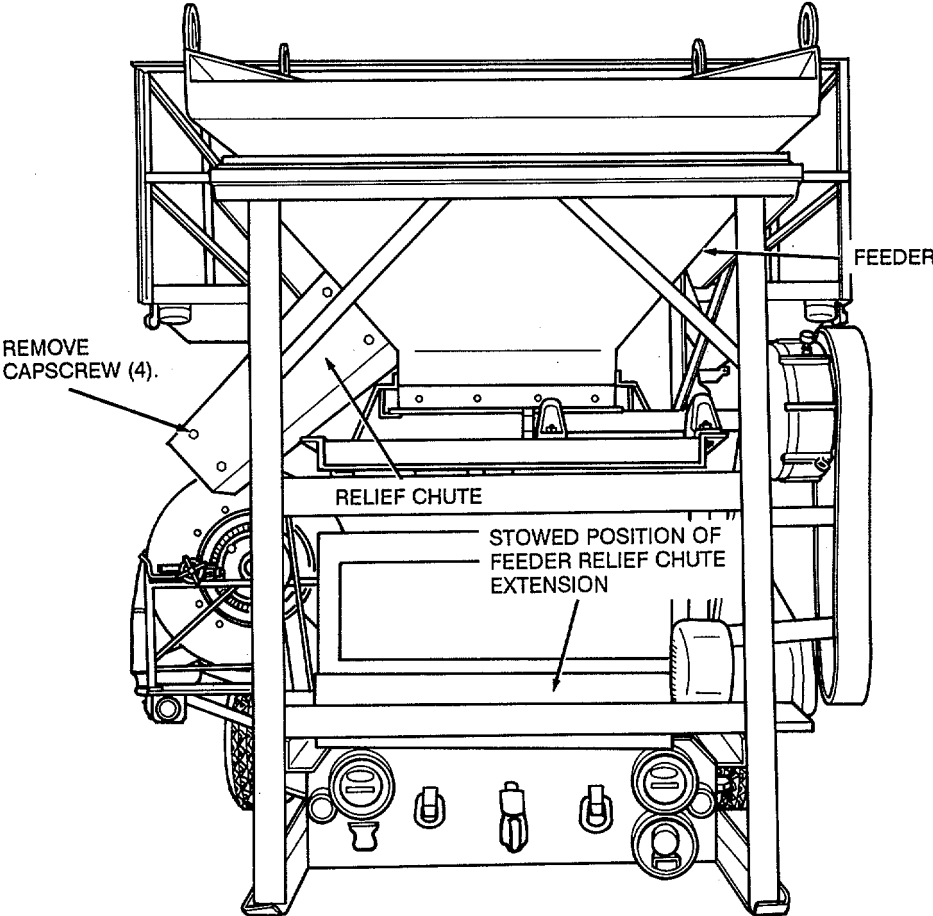
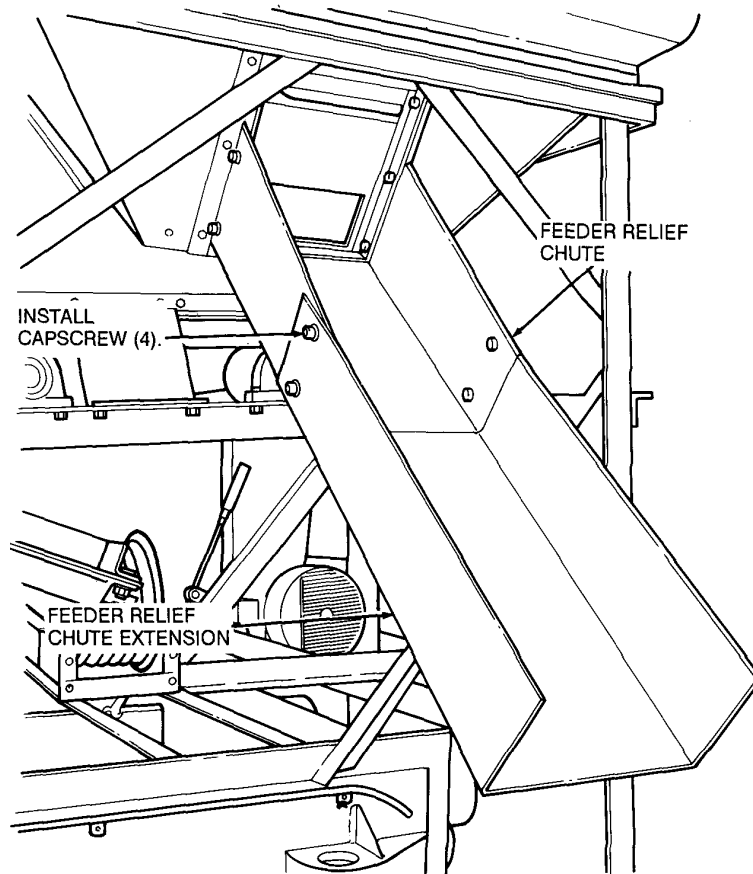

Figure 14. Feeder relief chute extension, stowed position.
Figure 15. Feeder relief chute extension, installed position.
- l. Remove the feeder relief chute extension from stowed position (fig. 14). Install the feeder relief chute extension on the feeder relief chute (fig. 15).
- k.* Remove the feeder chute extension and stow the extension in reverse of the instructions on figure 14.